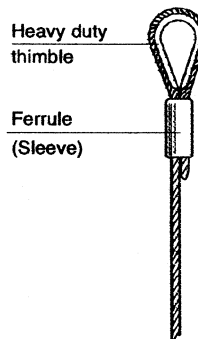

Figure 14
- Install heavy duty thimble with a minimum of three (3) J-Type (Fist Grip) Clamps (Fig. 14).